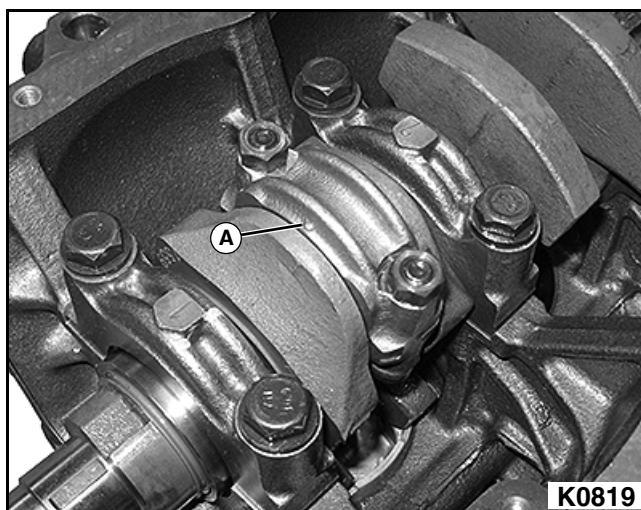

Figure 3-221
6. Place the bearing cap front mark (A) facing the front side, and install the bearing cap to the connecting rod. **See Figure 3-221.**